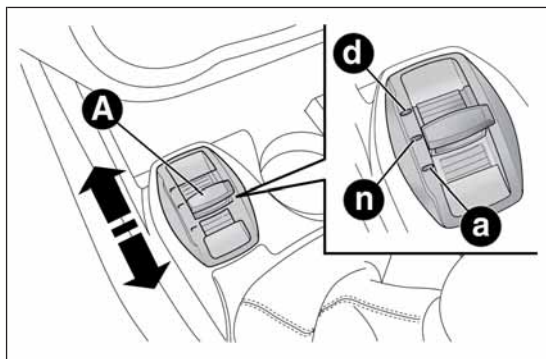
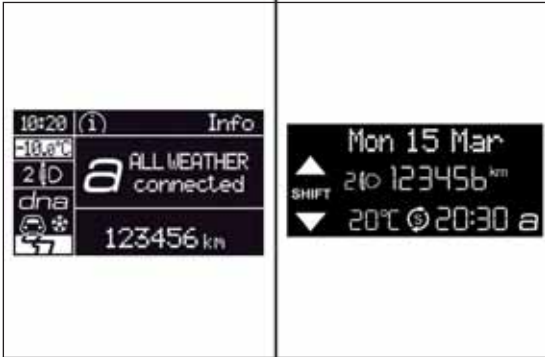

fig. 74
fig. 79
This device allows, using lever A fig. 74 (on the central tunnel), three car response modes to be selected according to driving style and road conditions:
Move the lever A fig. 74 upwards (next to the letter "d") and hold in this position for 0.5 seconds until the corresponding LED lights up or the word "Dynamic" appears on the display (see fig. 77).
Move lever A fig. 74 downwards (to the letter "a") and hold in this position for 0.5 seconds until the corresponding LED lights up or the word "All Weather" appears on the display (see fig. 79).
To deactivate "All Weather" mode and return to "Natural", carry out the same procedure described for "Dynamic" mode, but move lever A fig. 74 to "a".
- ❑ In the event of system failure or a fault with lever A fig. 74, no driving modes can be selected. The display will show a warning message.